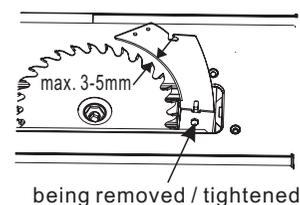

Fig. 7
Set the saw blade to the maximum cutting depth, move it to the 0° position and lock it in place with the fixing handle (9). Slacken the screw (make sure the plate under the table is not removed), then insert the riving knife into the slot. Adjust the riving knife (5) so that the gap between the saw blade (4) and the riving knife (5) equals 3 - 5 mm (see Fig. 7)